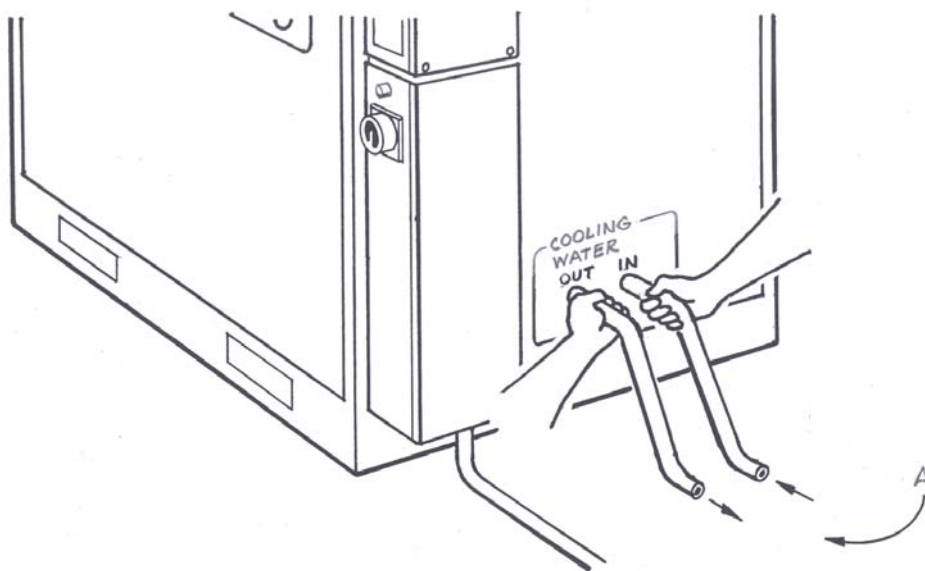

Figure 4-15: Cooling water flow direction check
7. Check the direction of the cooling water's flow. The drain line (OUT) should be warmer than the supply line (IN). (See Figure 4-15). If not, turn off the unit and connect the supply and drain lines to the proper ports.